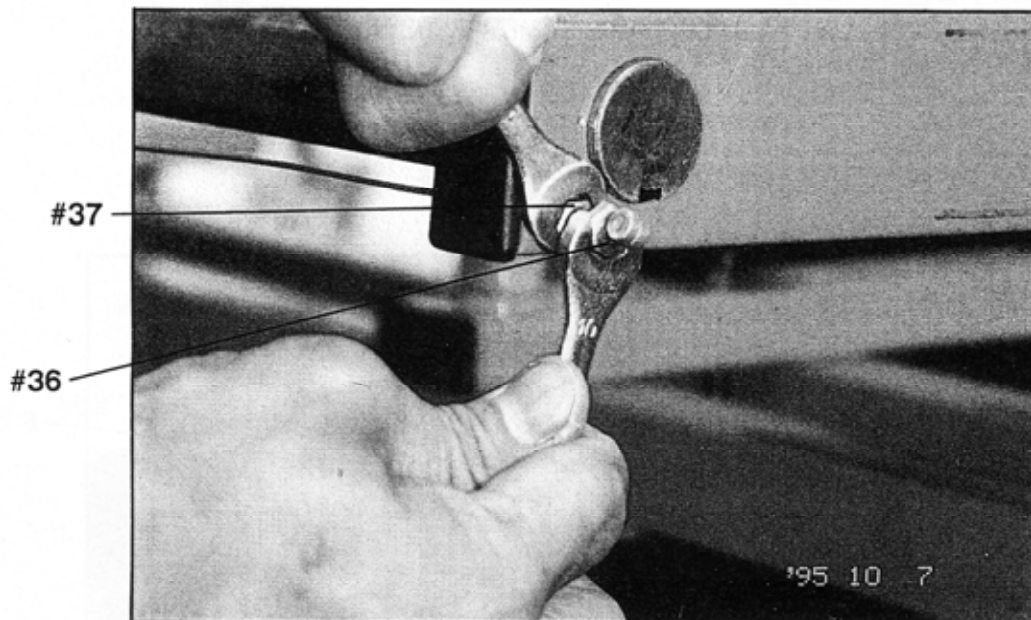

FIG. 11
1. REFER TO FIG. 11 LOOSEN NUT (#37), SCREW THE ADJUSTABLE BOLT (#36) TO THE END.